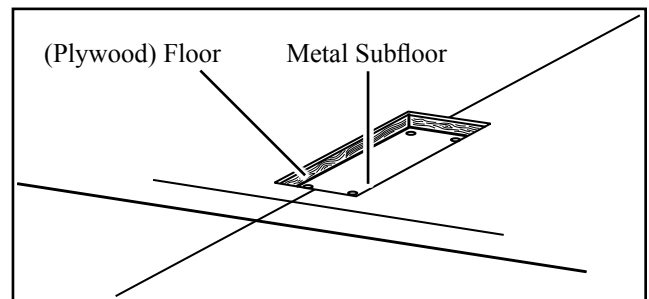

Figure 8 - Finished Mounting Block Cavity
5. Remove the section of floor covering and floor (Figure 8). Smooth the edges of the cavity with the router or saw. Make sure the mounting block will fit inside the mounting block cavity.